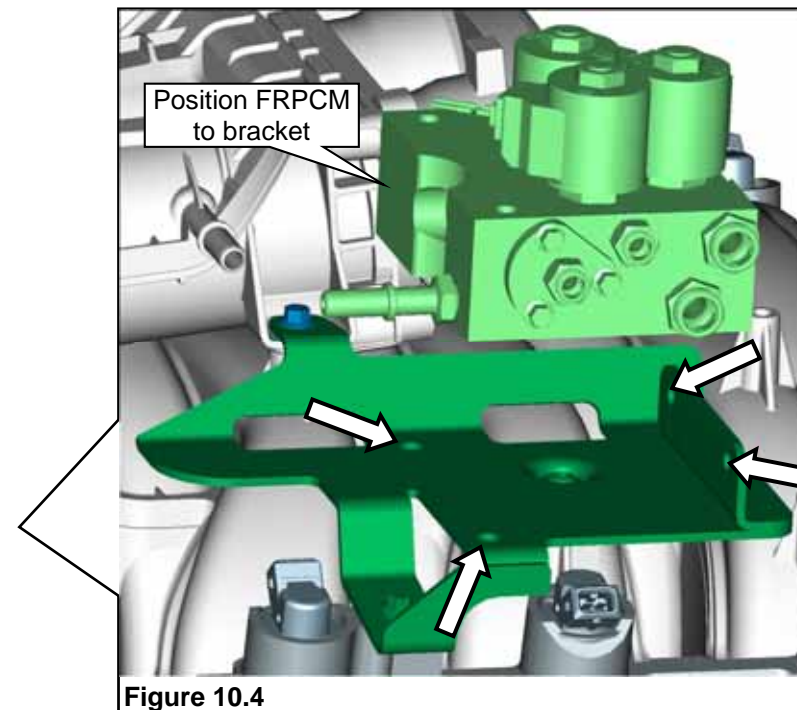

Figure 10.4
3. Position the FRPCM to the bracket and align the four holes. **Figure 10.4.**